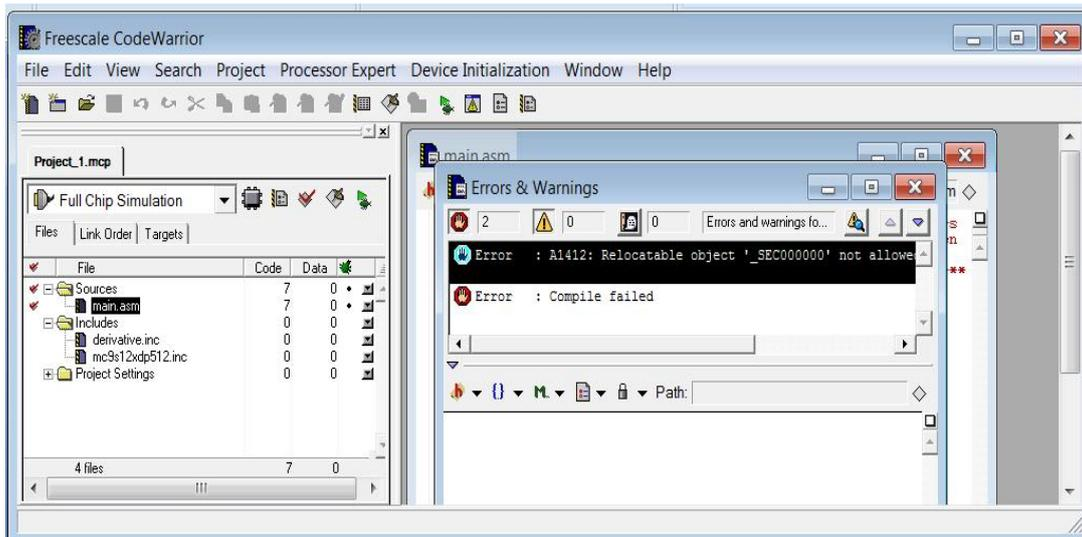

Figure 2: CodeWarrior display error messages when there are errors in the program.
- ♣ A project with errors will be displayed as shown in Figure 2.